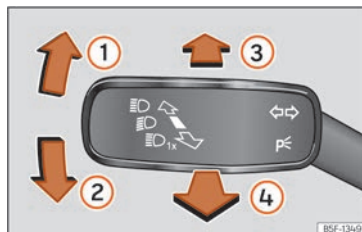

Fig. 104 Turn signal and main beam lever.
- From the base position, press the turn signal and main beam headlights lever forwards » » **Fig. 104 ③**
- **OR:** while the main beam is on, pull the turn signal light and main beam headlights lever forwards » » **Fig. 104 ④**.